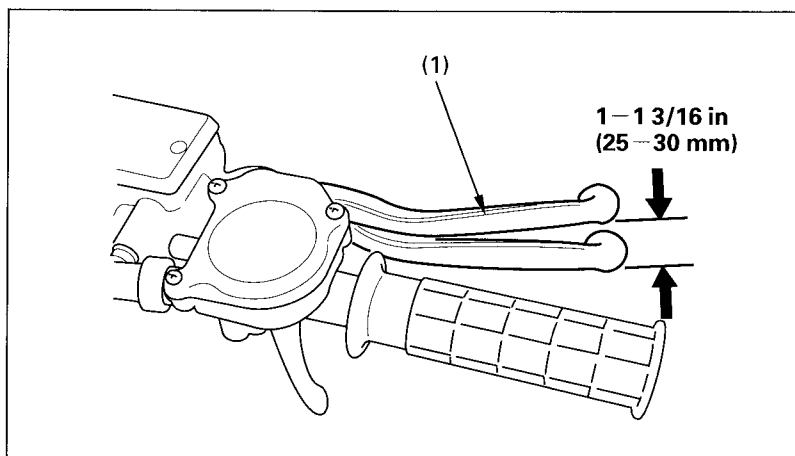

Fig. 4-24
1. Measure the distance the brake lever (Fig. 4-24) moves before the brakes start to take hold. Free play, measured at the tip of the front brake lever (1) should be:
3. If the brake lever free play and the brake shoe lining thicknesses are within the recommended limits, reinstall the inspection hole plugs, seating them into the inspection holes as shown in Fig. 4-24.